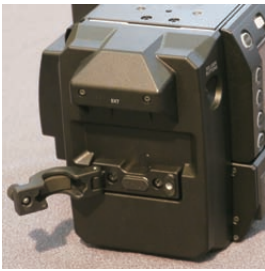

Fig. 1
- 1 Loosen the screw on the extension cable securing fitting. (Fig. 1)**